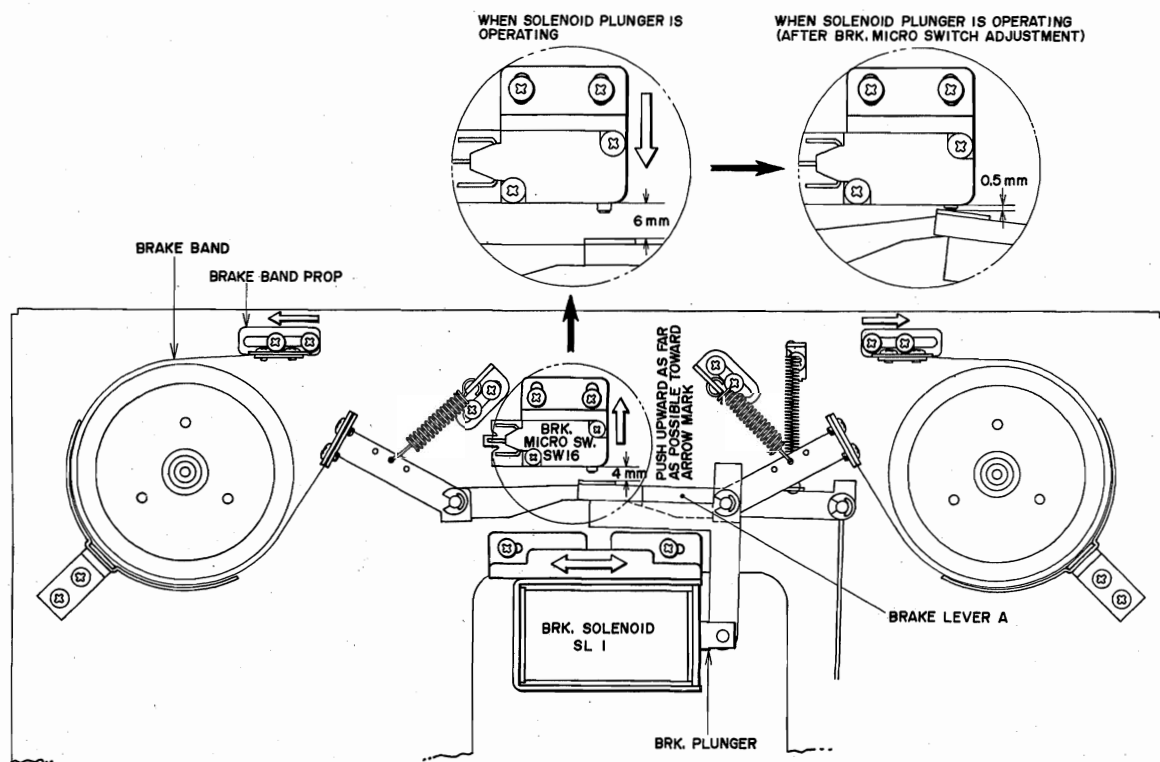

Fig. 9
2. BRAKE SOLENOID POSITION ADJUSTMENT (Refer to Fig. 9)
- 1) As shown in Fig. 9, push the Brake Micro as far as it will go toward the mechanical chassis and fix at that position.